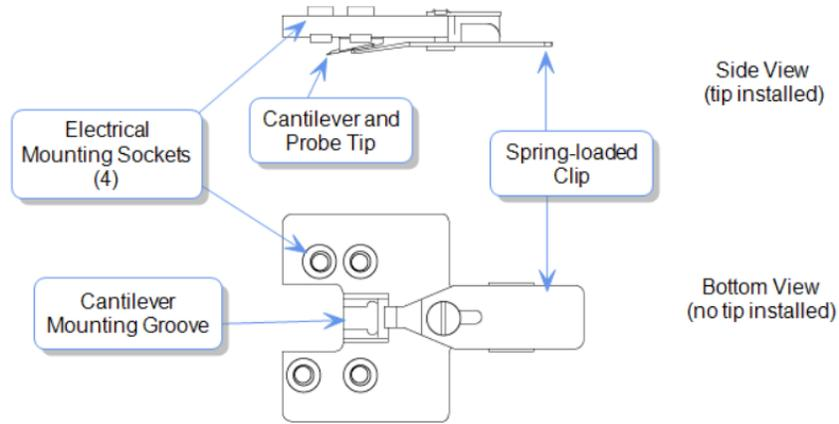

Figure 3. AFM Probe Holder
2. To install a probe on the probe holder, use sharp tweezers to firmly grasp the probe (consisting of the cantilever and the tip) on the sides. Press down and slide back the spring clip of the standard probe holder, as shown in Figure 3.